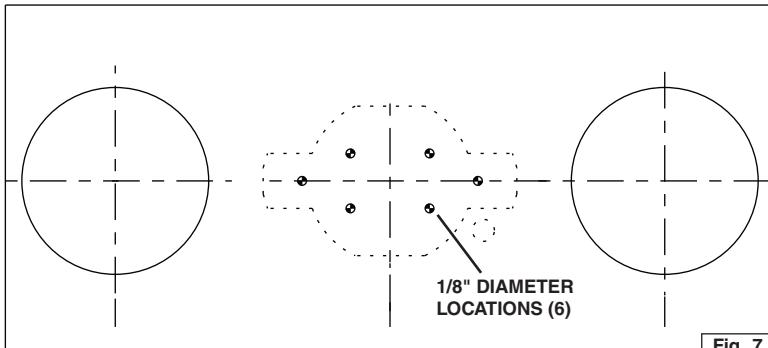

Fig. 7
1. Tape the mounting template in place and drill (6) 1/8" (3 mm) diameter holes at the center locations shown. Fig. 7. When complete remove template from ceiling.